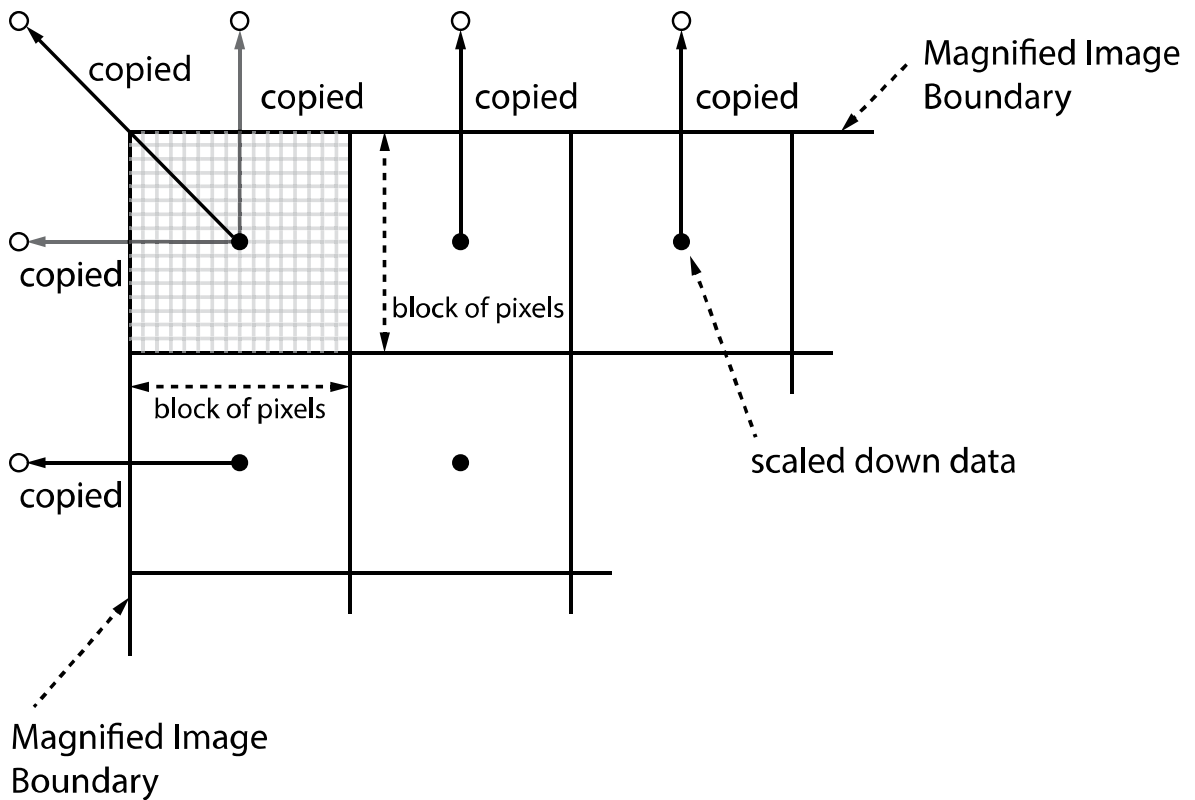

Figure 9-9 Bilinear Interpolated Magnification
3. Click the **Save to Flash** button in the **Flash Memory** category to save the generated Flat Field correction data into the non-volatile memory. The scaled-down Flat Field correction data will be expanded and then applied as shown in the **Figure 9-9** when it is used for correction.
3. Execute the 'sfd' command to save the generated Flat Field correction data into the non-volatile memory. The scaled-down Flat Field correction data will be expanded and then applied as shown in the Figure 9-9 when it is used for correction.